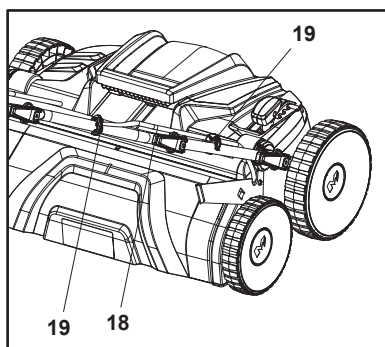

Fig. 3
13. Secure the interconnection cord (18) with two wire clips (19) (Fig. 3).